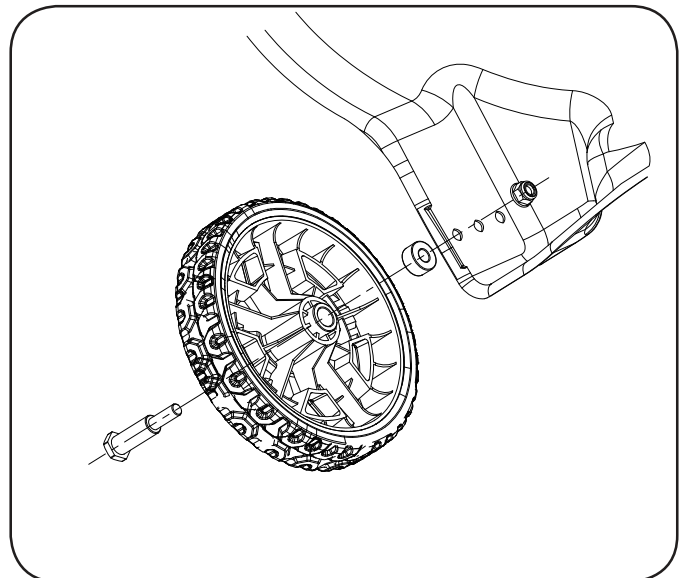

Figure 4
2. Screw each wheel with axle pin, axle sleeve and nut (Figure 4).